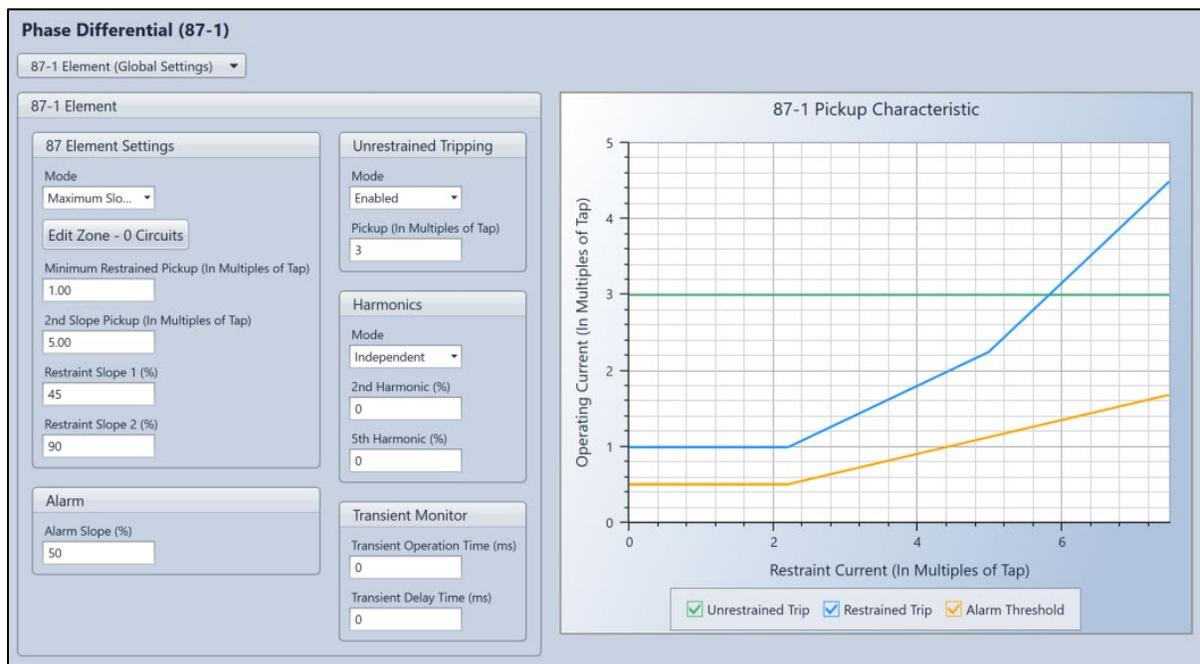

Figure 38-7. Phase Differential Settings Screen
Phase differential element operational settings are configured on the Phase Differential (87) settings screen (Figure 38-7) in BESTCOMSPlus.